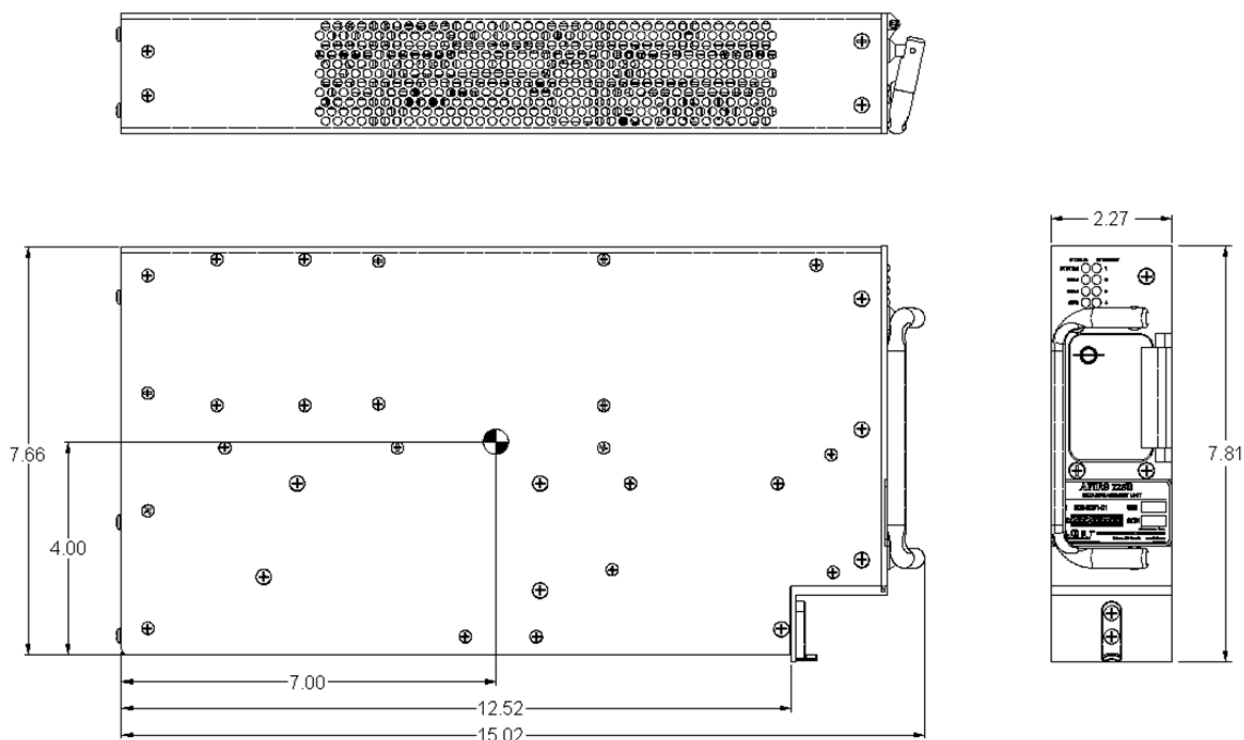

Figure 3-1 – DMU Outline Drawing
The DMU is housed in an ARINC 600 2MCU enclosure, which is designed to be mounted in a standard ARINC 600 mounting tray. See Figure 3-1 for an outline of this component.
- Dimensions: 7.81" x 2.27" x 15.02 (See Figure 3-1)